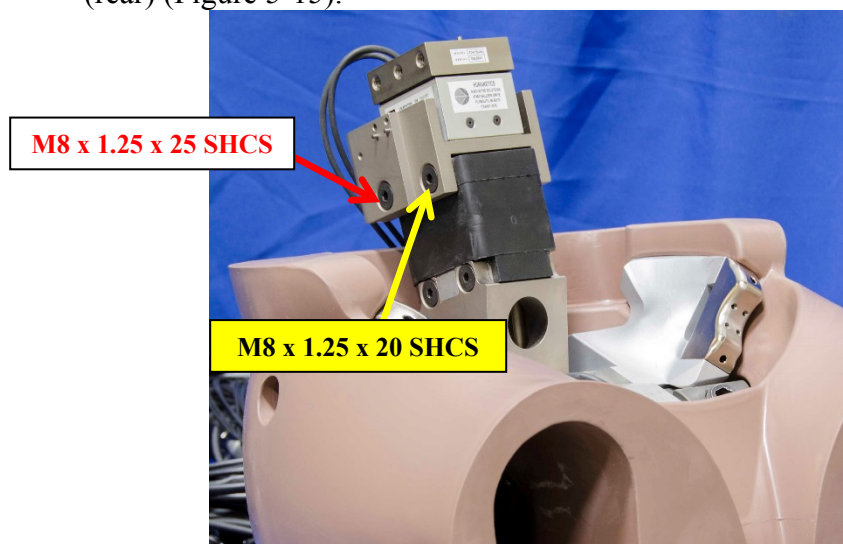

Figure 5-15. Attach thoracic spine load cell to lumbar flex joint
- 5.2.2.9 Attach the Thoracic Spine Load Cell Adaptor Plate Instrumentation Assembly / Thoracic Spine Load Cell, completed in Step 5.2.2.7, to the Lumbar Spine Flex Joint using two M8 x 1.25 x 20 FHCS (front) and two M8 x 1.25 x 25 FHCS (rear) (Figure 5-15).